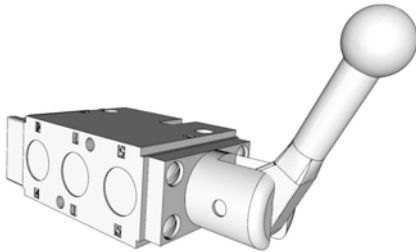

FIG. 69
- Handle Pulled: energizes the reel (FIG. 69).